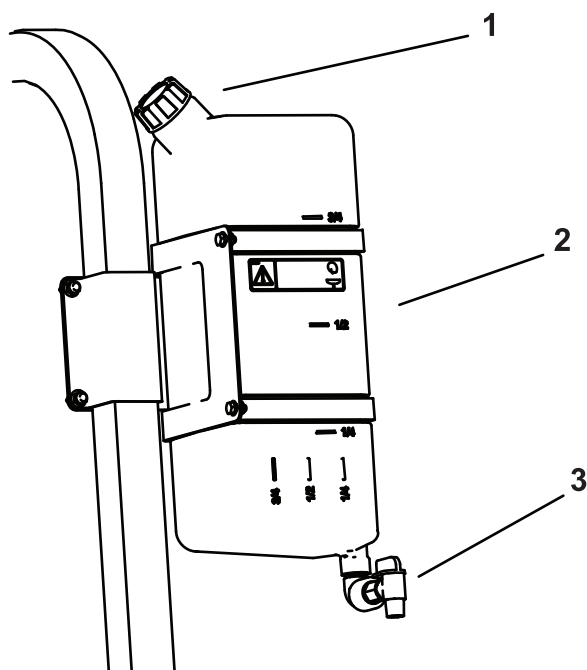

Figure 70
- To fill the tank, unscrew the cap at the top of the tank, fill the tank with fresh water, and install the cap (Figure 70).
- To open the fresh-water tank spigot, turn the lever on the spigot (Figure 70).